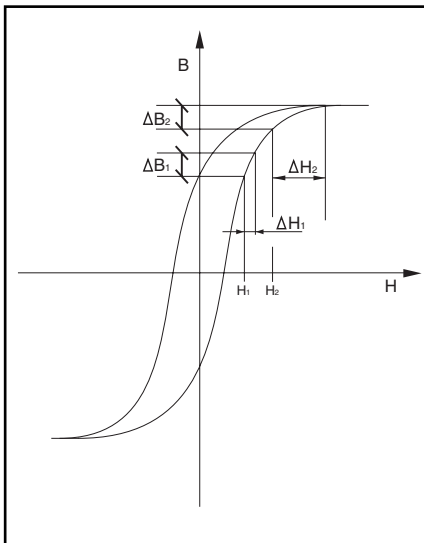

Fig 2. Hysteresis cycles of the magnetic cores.
- The hysteresis cycles of the magnetic cores have a form comparable to the one represented in figure 2 (more or less square according to the type of material used),